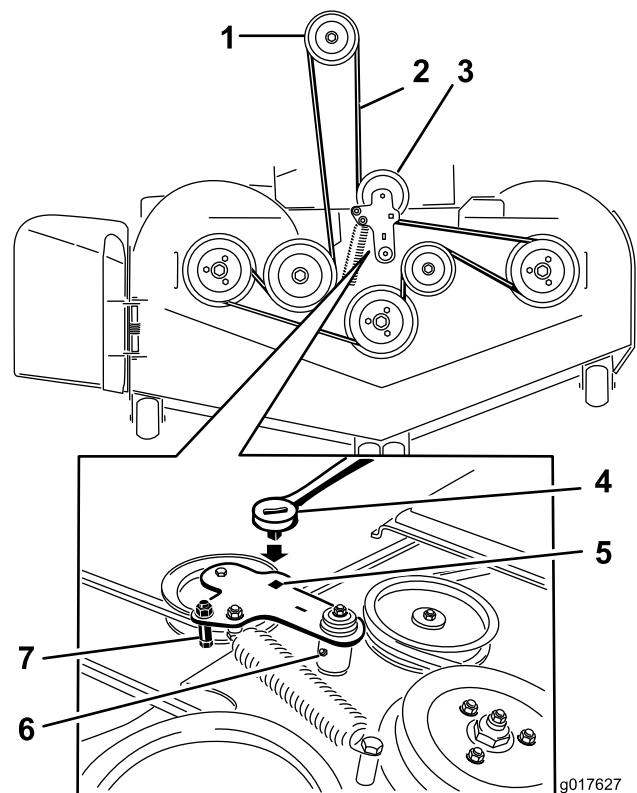

Figure 84
5. Use a ratchet in the square hole in the idler arm to remove tension on the idler spring (Figure 84).
7. Remove the belt guide on the spring-loaded idler arm (Figure 84).
9. Install the new belt around the mower pulleys and the clutch pulley under the engine (Figure 84).
10. Install the belt guide on the idler arm (Figure 84).
11. Using the ratchet in the square hole, install the idler spring (Figure 84).